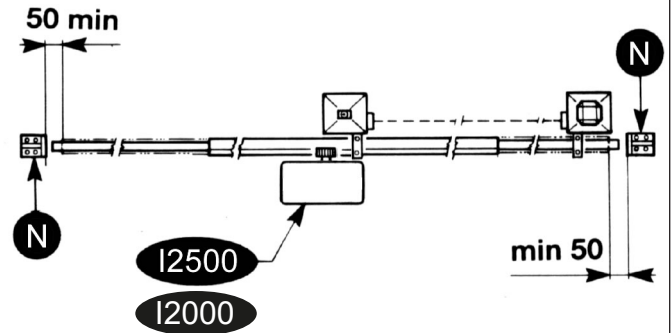
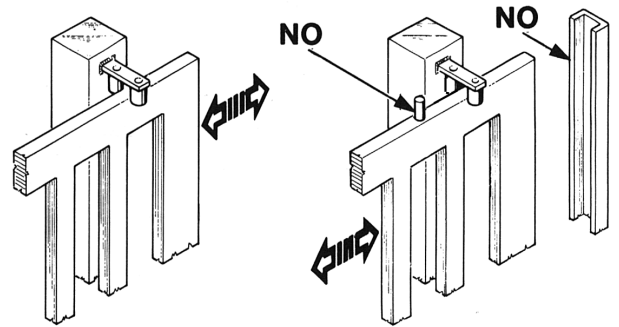

FIG. 2
FIG. 3
- Besides the electrical or mechanical limit switches available on the operators, there must be, on both ends of the installation, a fixed mechanical stopper which stop the gate in the unlikely event of ill functioning of limit switces on the operators. For this reason the fixed mechanical stopper must be of an adeguate size to withstand the static and kinetic forces generated by the gate (N) (Fig.2).
The guide must be provided with two mechanical stops at its ends (N) (Fig. 2). Gate columns shall have anti-derailment guides on their top (Fig. 3), to avoid the unintentional gate release.
N.B: Eliminate those mechanical stops of the kind described by figure 3.